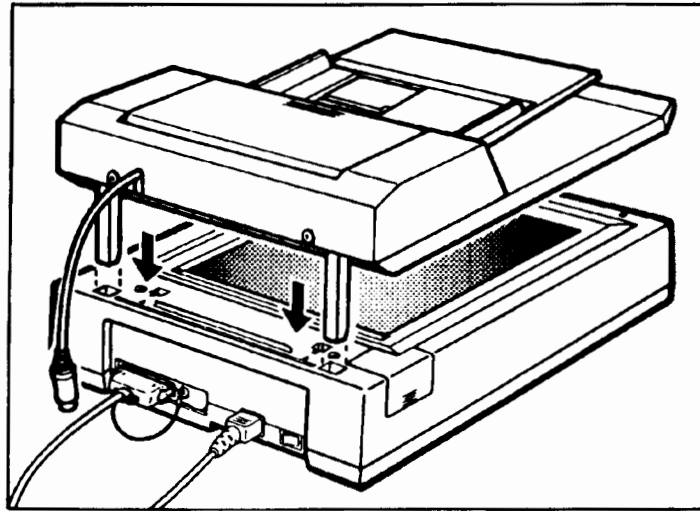

Figure D-5. Inserting the Metal Rods
6. Secure the ADF by inserting its metal rods into the corresponding holes on the scanner body. See figure D-5.